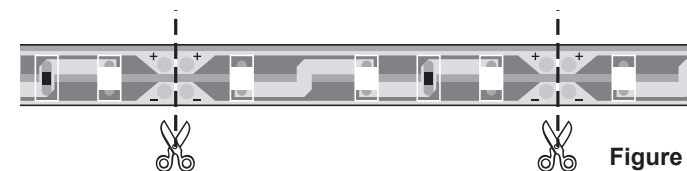

Figure 1
2. Shorten LED board if necessary (Fig. 1).
LED boards can be disconnected in each case after three LEDs (Fig. 1+2).